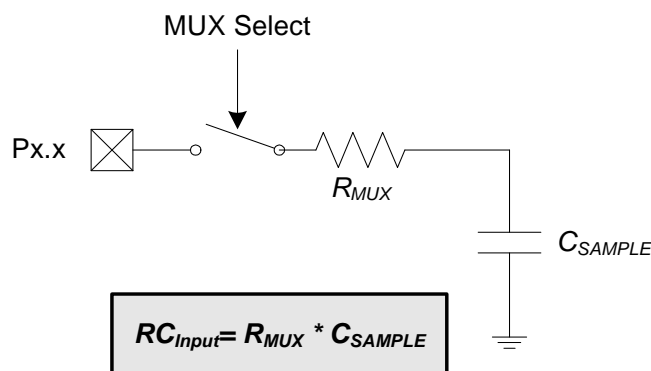

Figure 6.5. ADC0 Equivalent Input Circuit
Figure 6.5 shows the equivalent ADC0 input circuit. The required ADC0 settling time for a given settling accuracy (SA) may be approximated by Equation 6.1. When measuring the Temperature Sensor output or V_{DD} with respect to GND, R_{TOTAL} reduces to R_{MUX} . See Table 5.9 for ADC0 minimum settling time requirements as well as the mux impedance and sampling capacitor values.